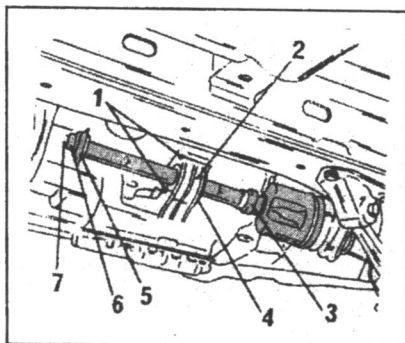

Fig. 4.3. — Drive shaft removal — See text.
- Refer to Fig. 4.3 and slacken the nuts (1) and swing down the attachments (4) by half a turn to disengage the outer cage. Remove the three bolts securing the support bearing (2) to the cylinder block and take out the shaft.